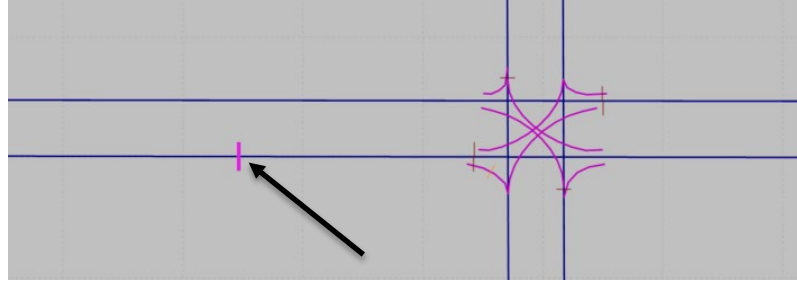

Figure 20: Routing decision start
- step iii. Right-click a point inside the link approximately 200 ft from the intersection (see Figure 20). A bar will appear at that location on the link; this is your routing decision starting point.